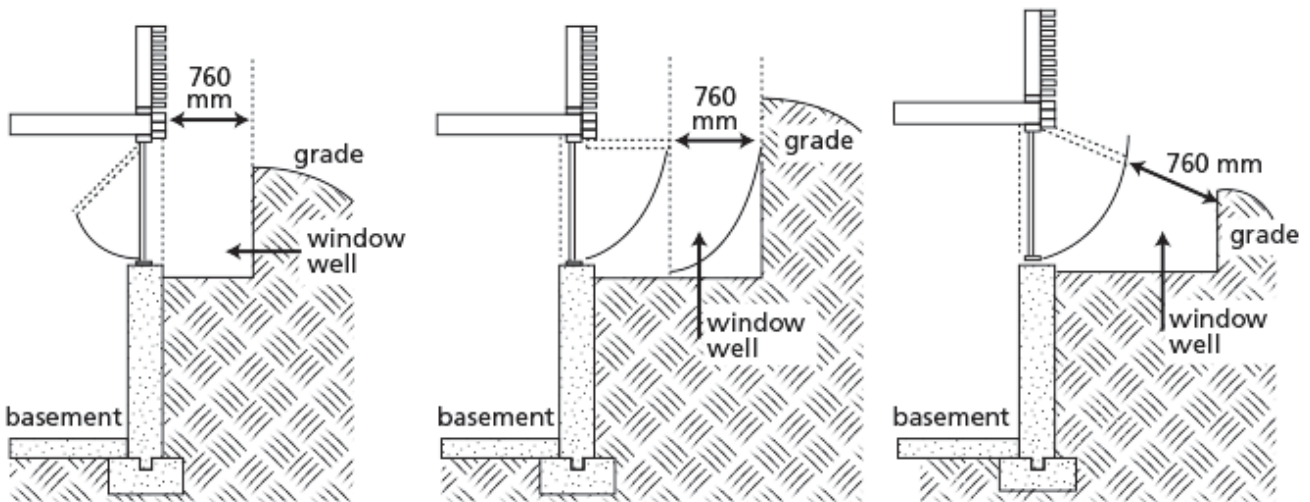

Figure 4
- 3) If the window referred to in Sentence (1) is provided with security bars, the security bars shall be openable from the inside without the use of keys, tools or special knowledge.
- 4) Where a window required in Sentence (1) opens into a window well, a clearance of not less than 760mm (30") shall be provided in front of the window, Figure 4.